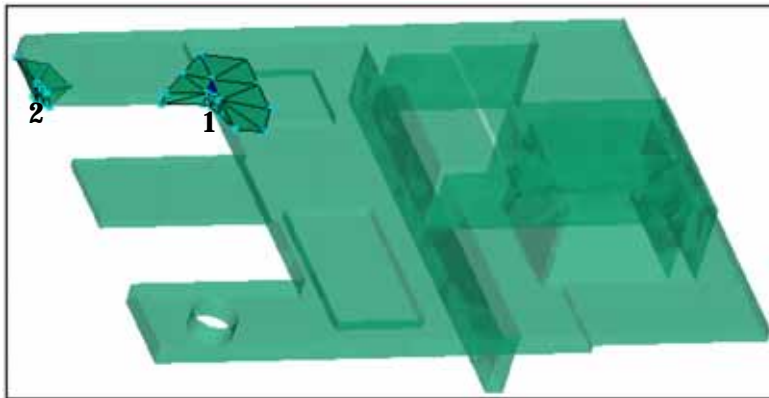

Figure 148: Overlapping elements
- The overlapping elements are shown in Figure 148. Two areas are identified indicated with numbers 1 and 2.
1. Refer to Figure 148 to identify the location of overlapping element area 1.
1. Refer to Figure 148 to identify the location of overlapping element area 2.